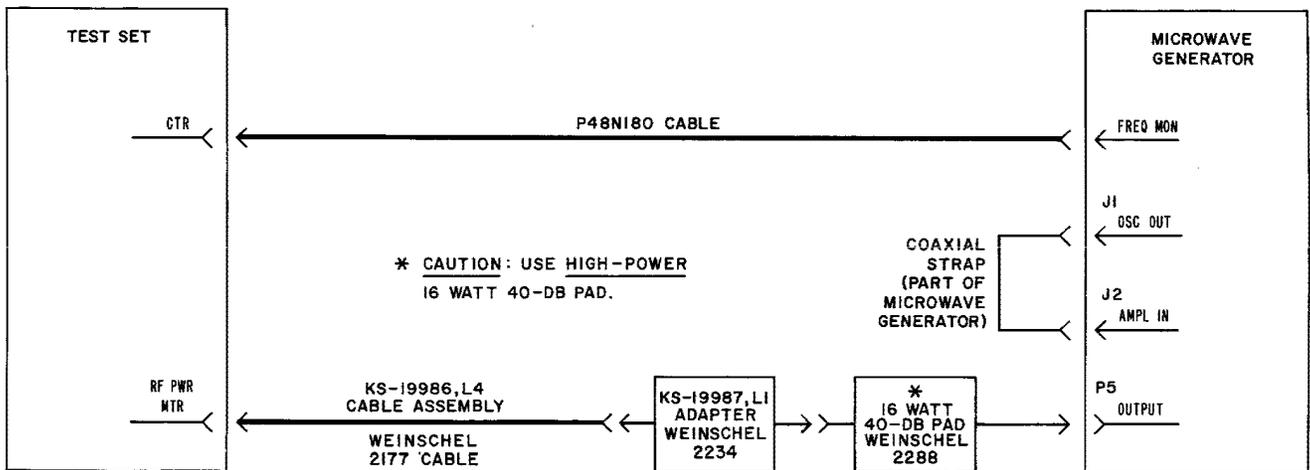

Fig. 4—Test Setup for Microwave Generator—Frequency Test
- 1 Set up the test connections in accordance with Fig. 4.
1	Set up test connections in accordance with Fig. 4.